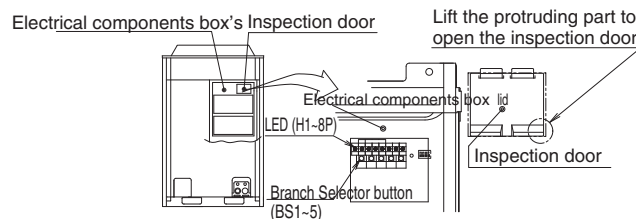

figure 13
- For performing the automatic refrigerant charging operation, the Branch Selector button on the PCB (A1) of outdoor unit are used. (See figure 13.)